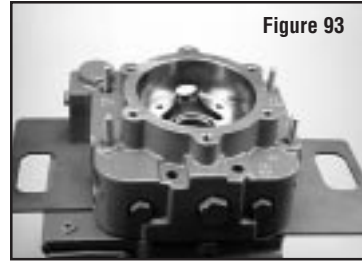

Figure 93
Aligning the pump end cover with the hold down arm assembly alignment tool (2) dowels, install the end cover. (see Figure 93)